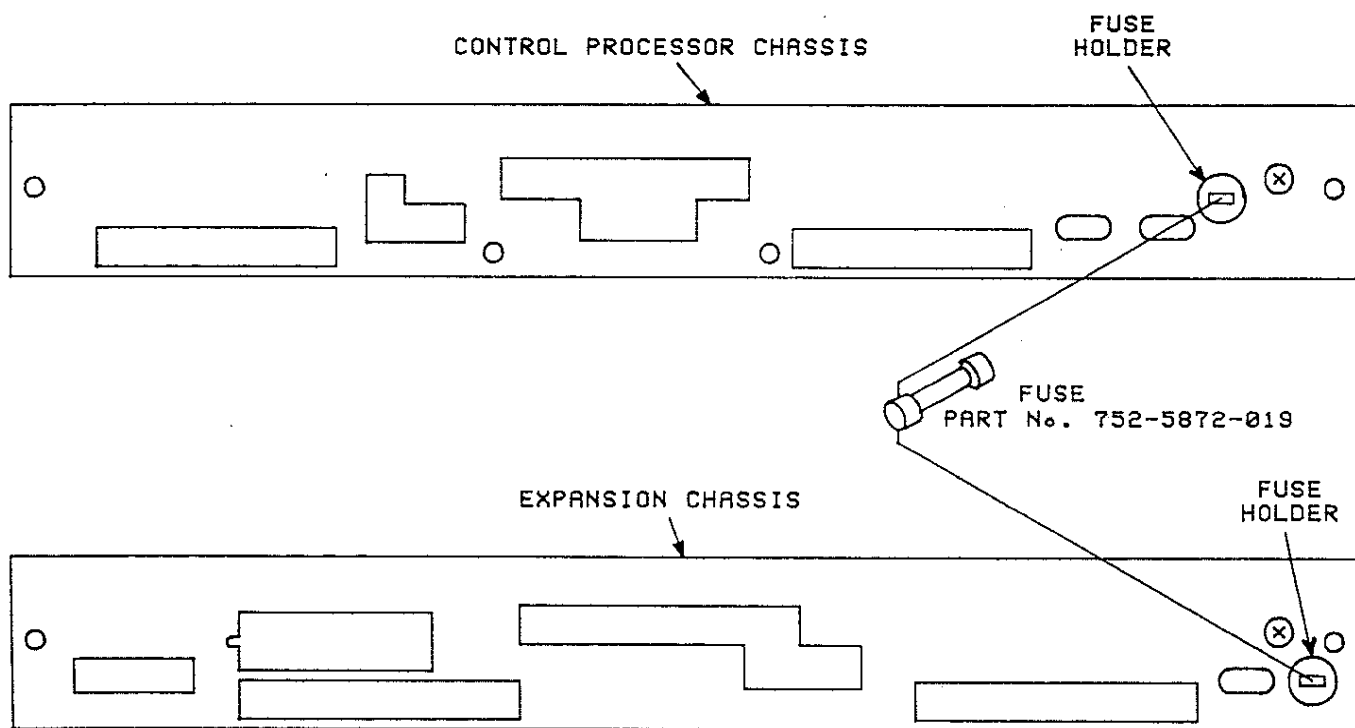

Fig. 3 - Digital Announcer Replaceable Parts and Fuse Locations
3.09 The location of the internal fuse on the Control Processor chassis is shown in figure 3. The Expansion Chassis and Line Expansion Chassis fuse locations are the same. To determine the integrity of the internal fuse, remove input power, unscrew the fuse retainer, measure electrical resistance of the fuse. If the fuse resistance is infinite, replace the fuse with a 1 ampere 3AG Slow Blow fuse; Northern Telecom, Cook Division (NT/CED) Part No. 752-5872-019 or equivalent.
If the message is corrupted, the battery(ies) should be replaced (see figure 3).